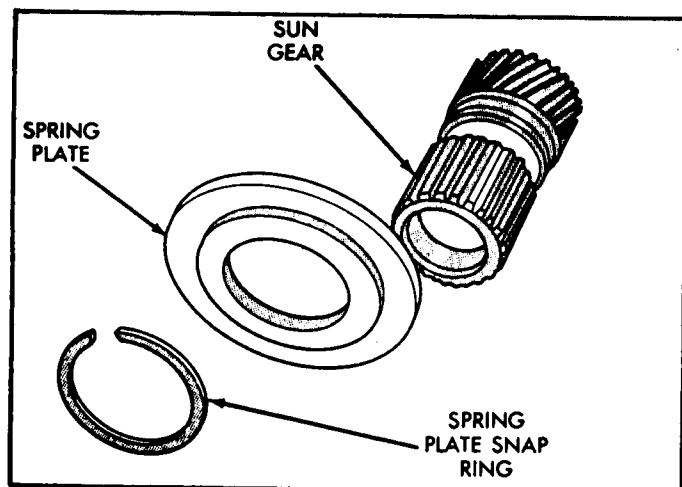

Figure 10
14. Install direct clutch spring plate on the sun gear, with the shoulder side of the plate facing out, as shown in Figure 10, and secure plate to the sun gear with the snap ring.